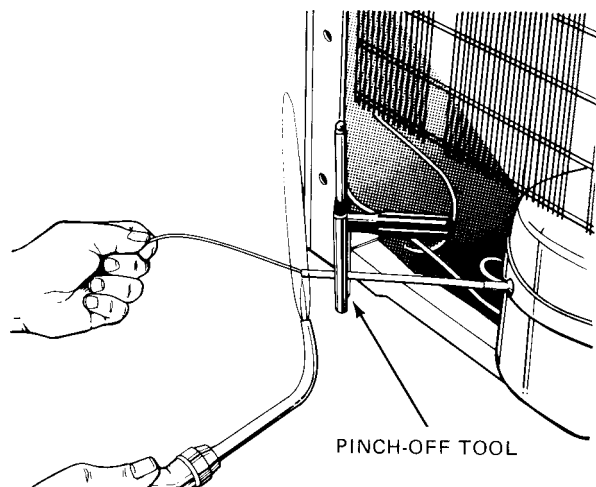

Fig. 12-10 Brazing process tube with pinch-off tool in place. (Kelvinator)
10. After the charge is established, pinch off the copper process tube with a pinch-off tool. With a pinch-off tool on the process tube, remove the charging adapter and hand valve. Seal the end of the tube with phos-copper. Then remove the pinch-off tool. See Fig. 12-10.